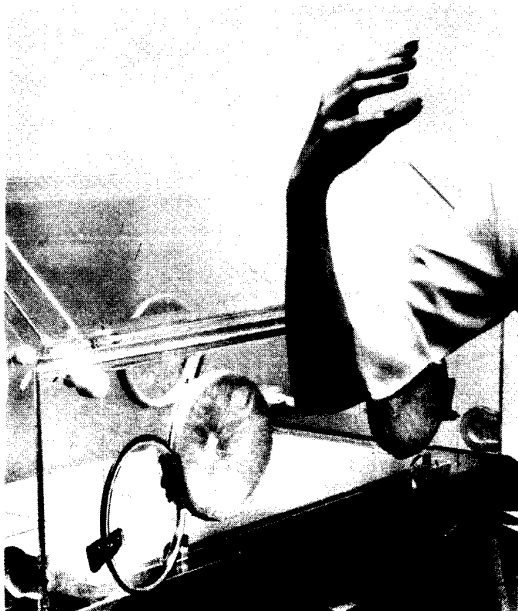

FIGURE 2.6 ACCESS DOOR OPERATION
12. CHECK ELBOW LATCH ACCESS DOORS. Gently press the door release with an elbow, as shown in Figure 2.6. Each Access Door should swing open. Close the doors and check for proper latching.